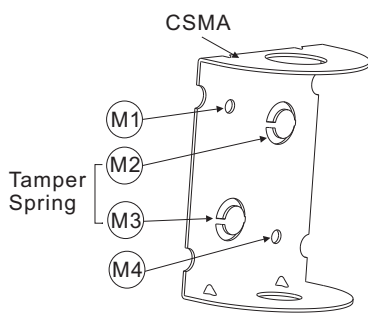

Figure 1
- d. Insert external cables and tamper wires from the conduit through the wire passage of the swivel (Figure 1).